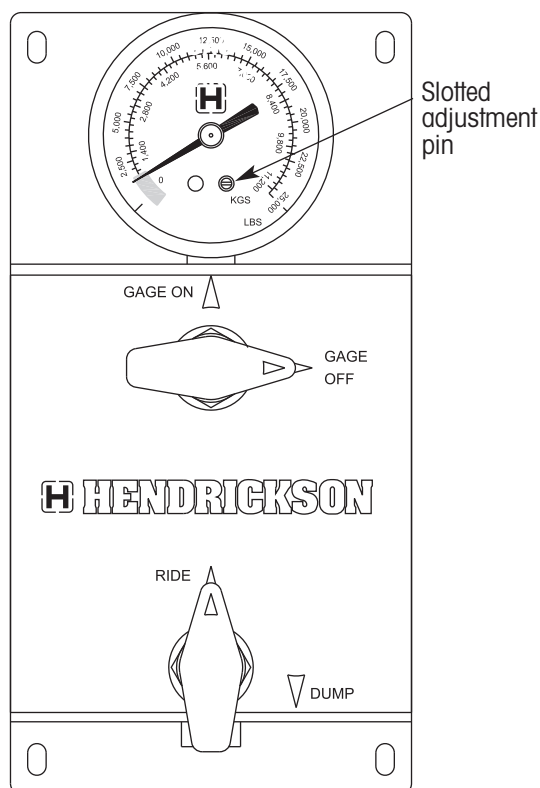

Figure 2. Gage valve in the GAGE OFF position
6. Locate the slotted adjustment pin at the bottom of the gage face (figure 2). Using a small screwdriver, rotate this adjustment pin until the gage agrees with the average weight per axle.
8. Rotate the gage valve (the upper ball valve if equipped with the optional air dump feature) clockwise to the GAGE OFF position (figure 2).
4. Rotate the gage valve (the upper ball valve if equipped with the optional air dump feature) clockwise to the GAGE OFF position (figure 2).
1. Rotate the dump valve (the lower ball valve) counterclockwise to the RIDE position (figure 2). Allow the air system to fully charge.